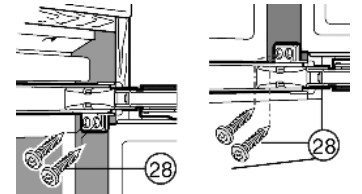

Fig. 17
- ▶ At the top and bottom of both doors with Spax screws *Fig. 17 (28)* passed through the hinge plates.